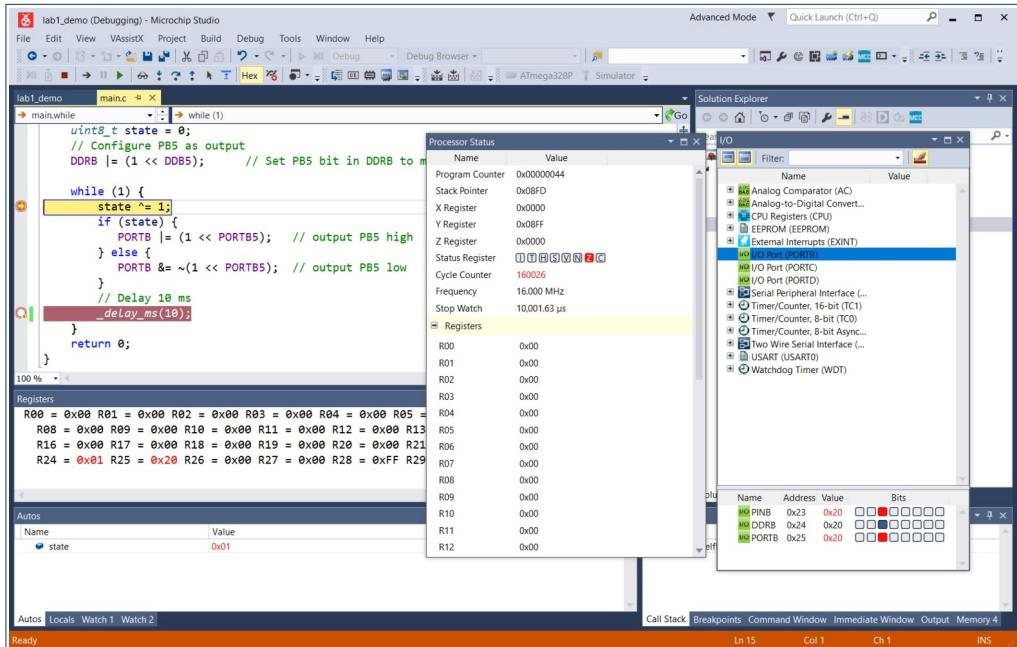

Figure 7: Stepping through the code until reaching the next breakpoint
2.6 Open the **Disassembly View** (**Debug → Windows → Disassembly**) to see the AVR assembly code which is results from compiling the C source code. Observe the changes in the I/O register values and the CPU cycle count (see **Figure 7**).